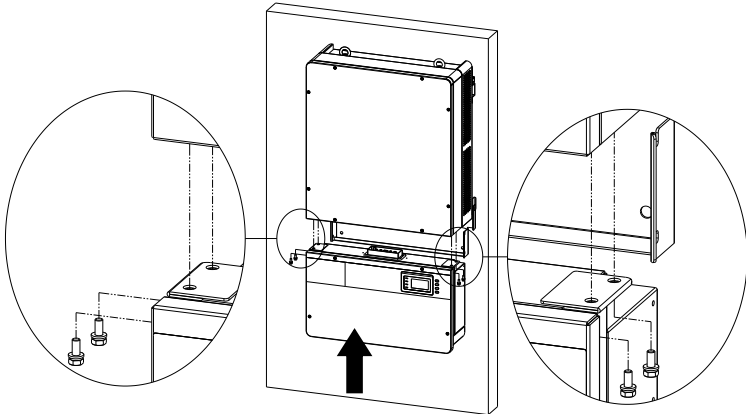

Figure 2.11 - Wiring Box Installation
- ③ Connect the wiring box to the main section, using M6x16 screws (4pcs) to secure the wiring box. (see Figure 2.11)